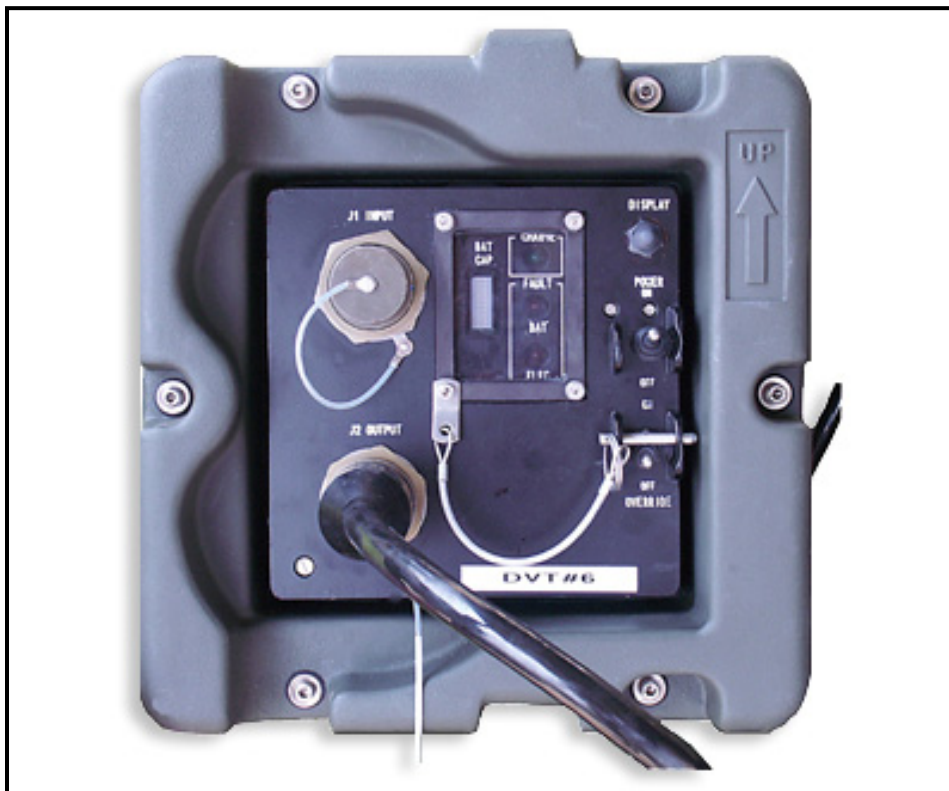

Figure 1-7. Lithium-ion power source.
d. **Lithium-Ion Power Source.** The lithium-ion power source (LPS) (Figure 1-7) is a direct replacement to the BPS. It has increased battery lifetime, increased system operational time (silent watch), reduced charge times, and improved vehicle power filtering. The components of the LPS are the lithium-ion battery box (LBB), the vehicle-mounted charger (VMC), and the lithium-ion AC charger (LAC).